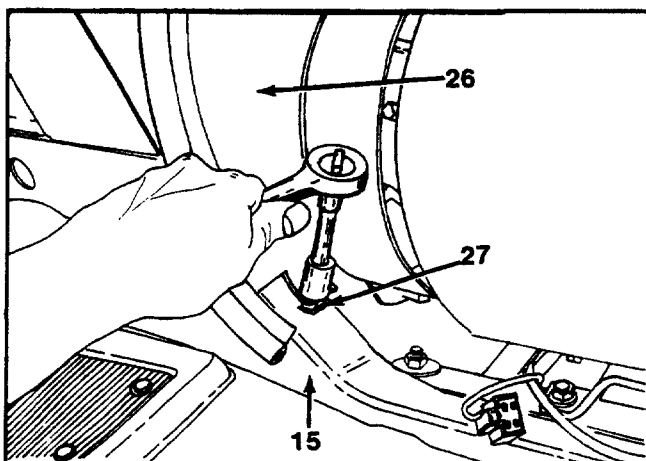

FIGURE 15.
16. Remove the heat shield from the chassis, by removing hex bolt and washer on right hand side. See figure 15.